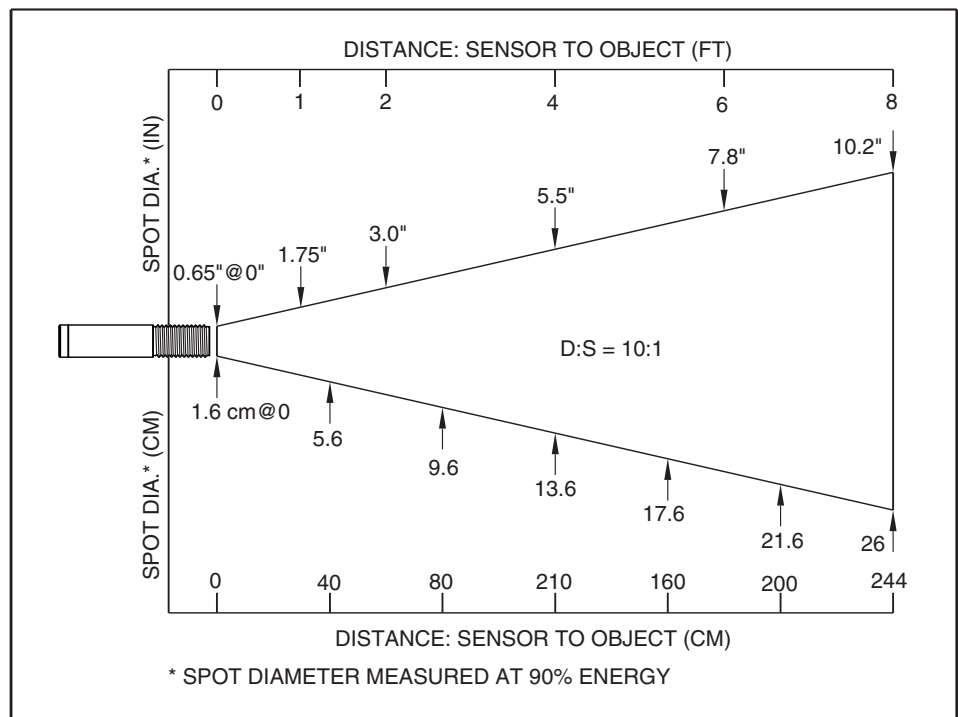

Figure 3-1. Optical Field of View
- ✓ The target is larger than the optical field of view of the transmitter (Fig 3-1).